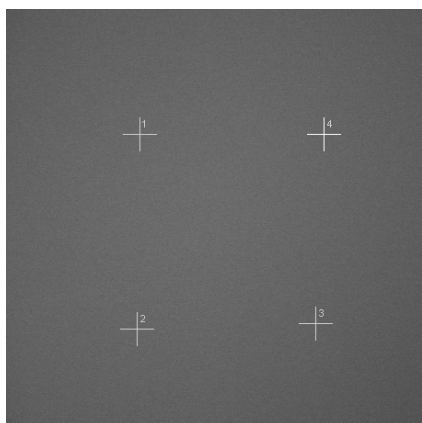

Fig. 9-133 Image of dye layer with selected positions
- In the ConfoCor **Measure** tool select **LSM Image** from the **Positions** panel. Mark the points in the LSM image that you want to bleach (Fig. 9-133).